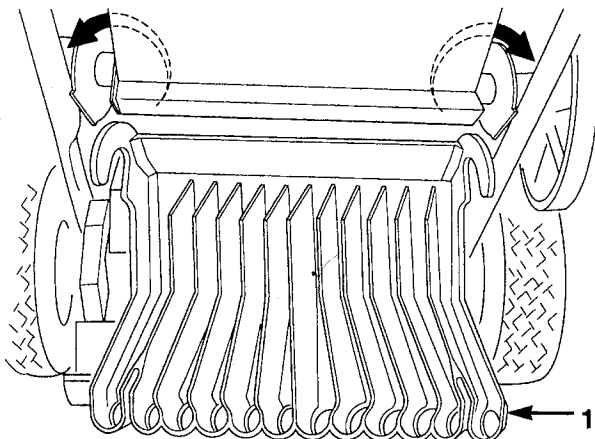

Figure 58
5. Install the chute (Fig. 58). Notice that the chute has a hook at both sides.
3. Rotate the chute up and slide it forward to disengage the hooks from the axle (Fig. 58).